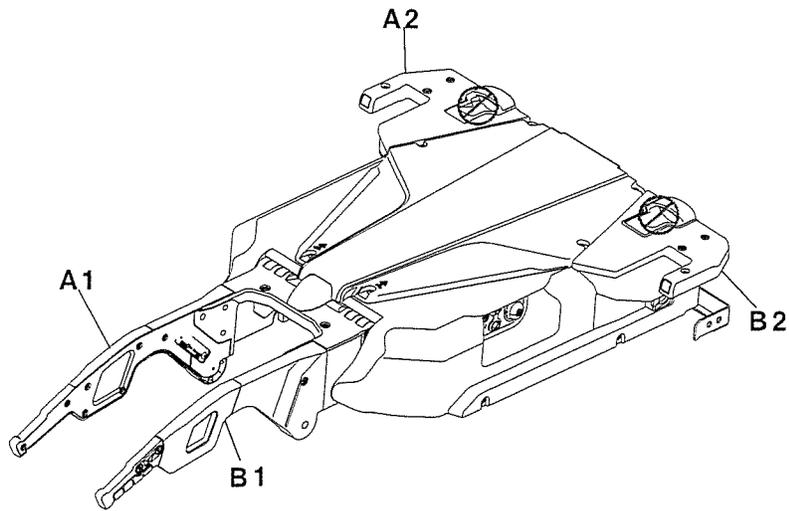

Figure 13: Trolley assembly
20. Carefully lift the trolley assembly by its arm and wing. Do not lift the trolley by the manual cot release handles. Lift only where indicated. Installer 1, position hands at A1 and A2. Installer 2, position hands at B1 and B2 (Figure 13 on page 22).